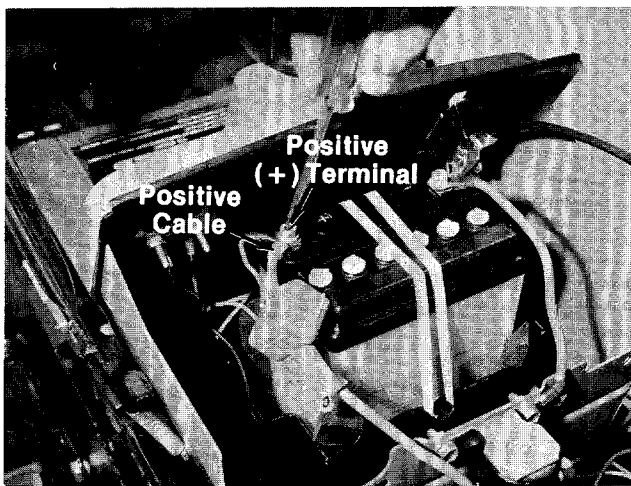

FIGURE 11.
14. Slide the square nut (provided with battery hardware) into the positive (+) terminal. Slide back the rubber boot which is on the positive cable. Place the positive (heavy red wire) cable and the small red wire (with a fuse holder in it) on the positive terminal. Secure with screw and lock washer provided. See figure 11.